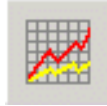

Figure 10-15. Item Status button
18. Click the **Item Status** button (Figure 10-15) to open the **Item Status** dialog box.